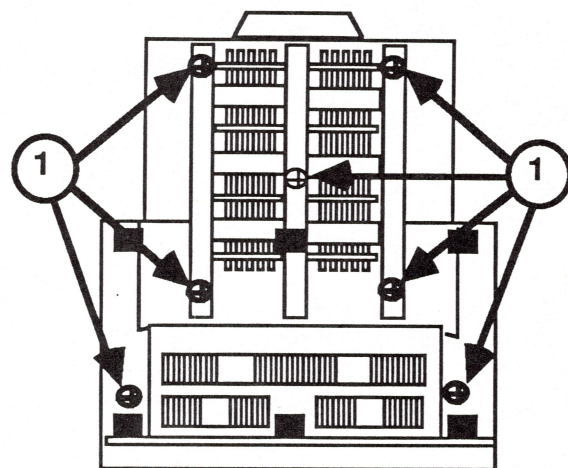

FIGURE 35
3. Replace the seven screws (Figure 35, #1) at the bottom of the monitor.